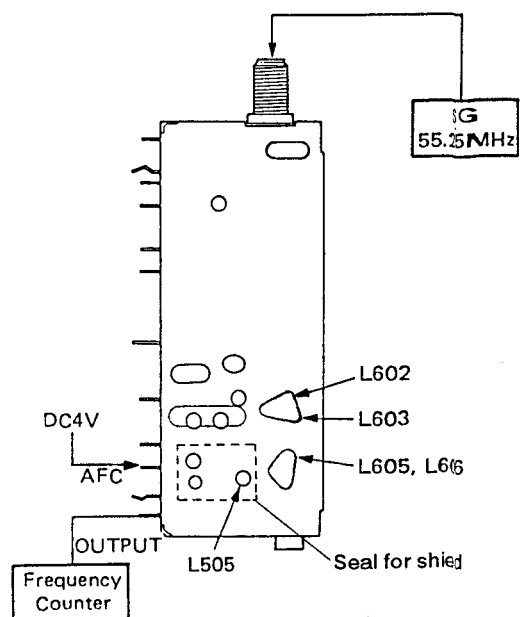

Fig. 10
2. Tune the unit to CH.2, and apply a 55.25MHz (Fv) signal from a signal generator to the INPUT terminal. Remove the jumper wire from the AFC terminal at this time, and apply 4V DC from the DC power supply to the AFC terminal. (Fig. 10)